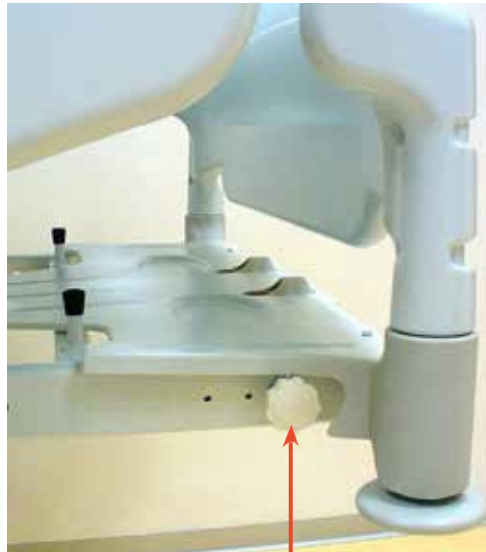

Fig. 1
To return the bed to normal length proceed as follows: make sure that the bed is locked (see par."Lock and unlock the bed"); release the extension by unscrewing the knobs (18), placed on both sides of the bed, and push the section inwards until the end of the stroke (Fig. 1);